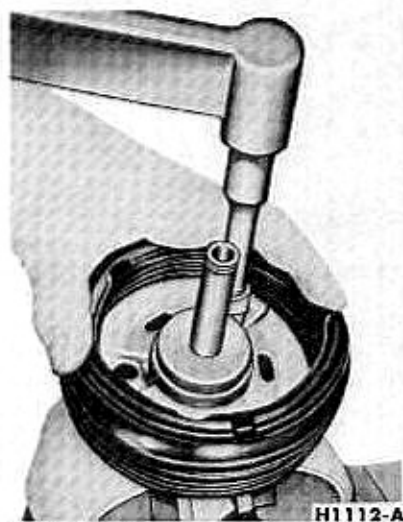

FIG. 11—Retainer and Guide Sleeve to Valve Housing Installation
5. Carefully place the assembled bellows and retainer over the valve balancing diaphragm and in position on the valve housing. Start and tighten the three special cap screws finger-tight, then torque them evenly to 7-10 foot-pounds (Fig. 11).